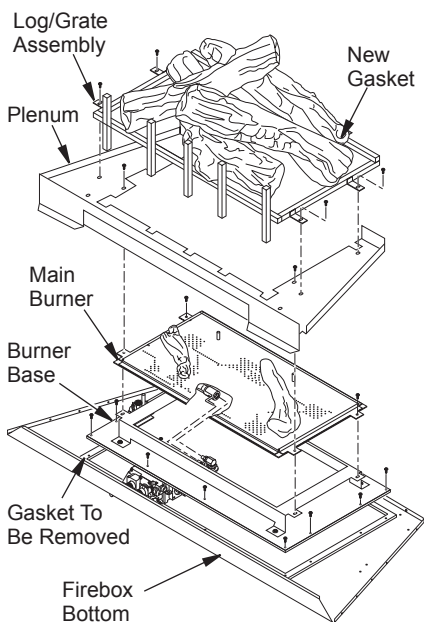
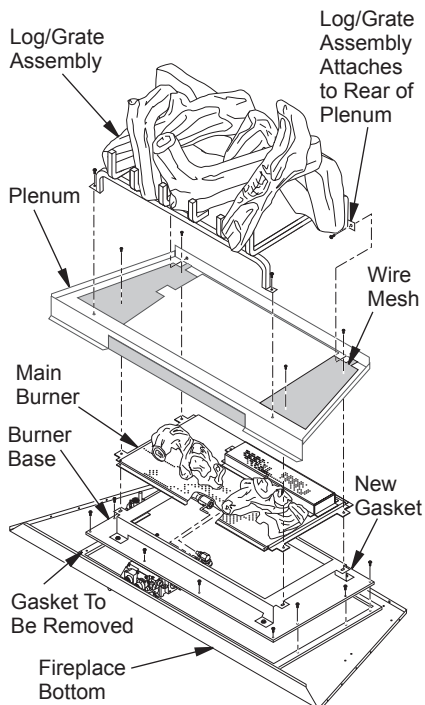

Figure 4 - Removing/Installing (V)TC36 and (V)VC36 Series Log Set/Burner Modules [(V)TC36 Shown]
Figure 5 - Removing/Installing (V)VC42 Series Log Set/Burner Module
See Figure 4, page 3 regarding the (V)TC36 and (V)VC36 series or Figure 5, page 3 for (V)VC42 series.
1. Remove 4 screws that attach the grate to plenum and burner. For (V)VC36 and (V)VC42 series, grate is attached to rear of plenum (see Figure 5, page 3). Lift log/grate assembly and discard. Two logs are attached to burner.
See Figure 4 on page 3 regarding the (V)TC36 and (V)VC36 series or Figure 5 on page 3 for (V)VC42 series.
5. Place plenum over burner. Align front slots with holes on burner. Secure using screws provided. **For 36" models**, front screws will go through plenum, burner and burner base. **For 42" models**, all four screws will go through all three pieces (see Figure 4 on page 3 for (V)TC36 and (V)VC36 series or Figure 5 on page 3 for (V)VC42 series).